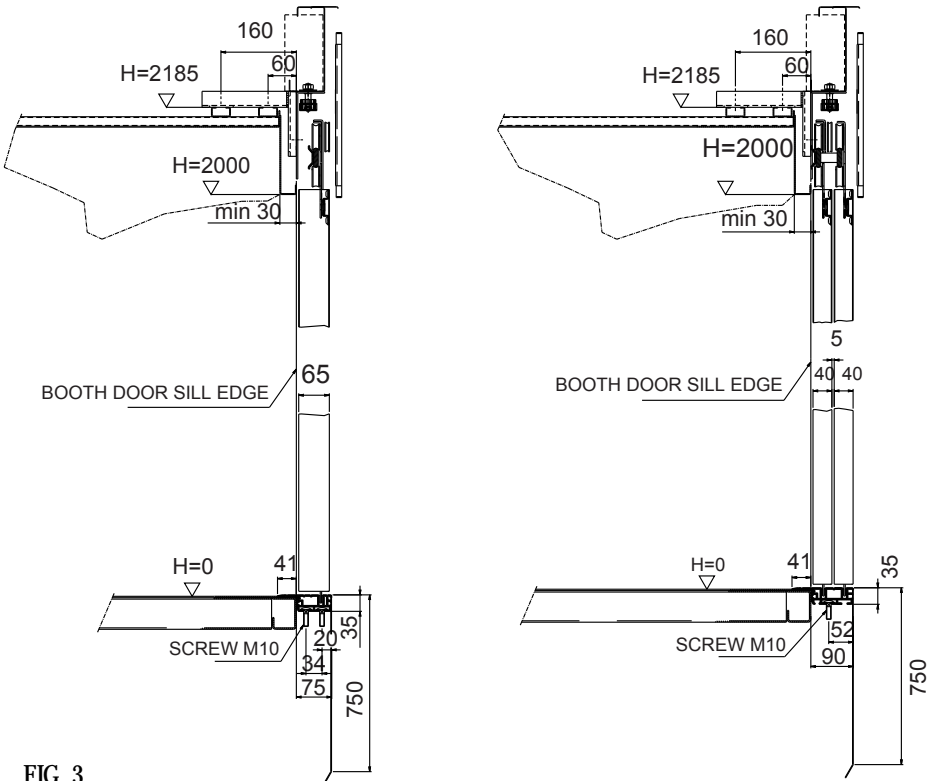
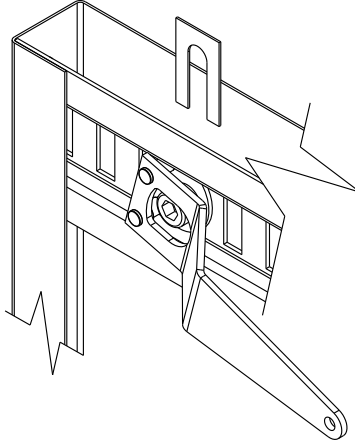

FIG. 3
FIG. 4
The information relevant to the position of the doors is detected by means of three monostable magnetic contacts (NO), RA-RC-EC which detect respectively the beginning of slowing-down at opening, the beginning of slowing down when closing and the end of closing (See Figure 3).
2. Attach the operator – by means of the purposely-allocate brackets – onto the booth roof, aligning it to the booth door sill. Tighten the attachment bolts thoroughly (See Figure 3).
3. Attachment of the booth wings. After attaching the booth wings (See Figure 4), make sure that the space between the wings and the booth shoulder between the door sill and the wing itself (See Fig. 3). Should said space not be correct (5 mm), locate the wings into the exact position by means of the purposely-allocated shims.